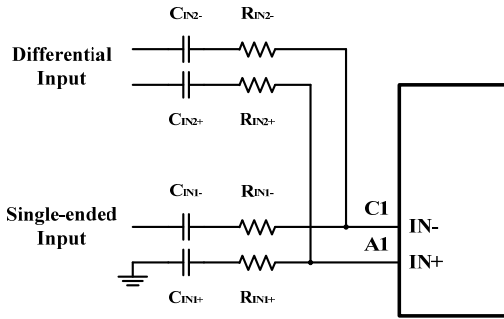

Figure 14 Summing Differential Input and Single-Ended Input Signals
Figure 14 shows how to sum a differential input signal and a single-ended input signal. Ground noise may couple in through IN- with this method. It is better to use differential inputs. The gain for each input source can be set independently by Equations (4) and (5). The corner frequency of the single-ended input is set by CIN2, shown in Equation (6).